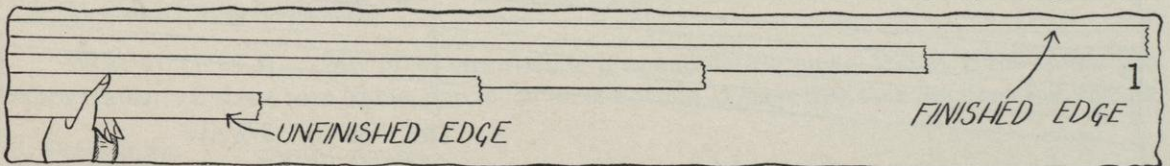

FIG. 1.
- a. The top row is always the finished edge; it is where only about one-half of the tiny row of braid shows, when looking at the right side; all the others are lapped over it. It should be held farthest away from you in the left hand, with the cut end at the right (see Figure 1).
- b. The bottom row is the unfinished edge, where the entire $\frac{1}{8}$ -inch row of braid can be seen from the right side, and over which each succeeding row of braid is lapped as we sew from right to left (see Figure 1, page 267).
- a. With the right side of the braid facing you, start at the right hand end and work left. Rip the second row back 2 inches and cut it off (see Figure 1, page 267). The braid is usually sewed with a chainstitch and will therefore rip very easily.
- b. Rip the third, fourth, and fifth strands back about 3 inches beyond each other and cut off each (see Figure 1, page 267). These rows are ripped back in this way so that all of the cut ends will not come in the same place.
- b. Wipe off surplus shellac or sizing against the edge of the can (see Figure 1 of Job 12, page 54).